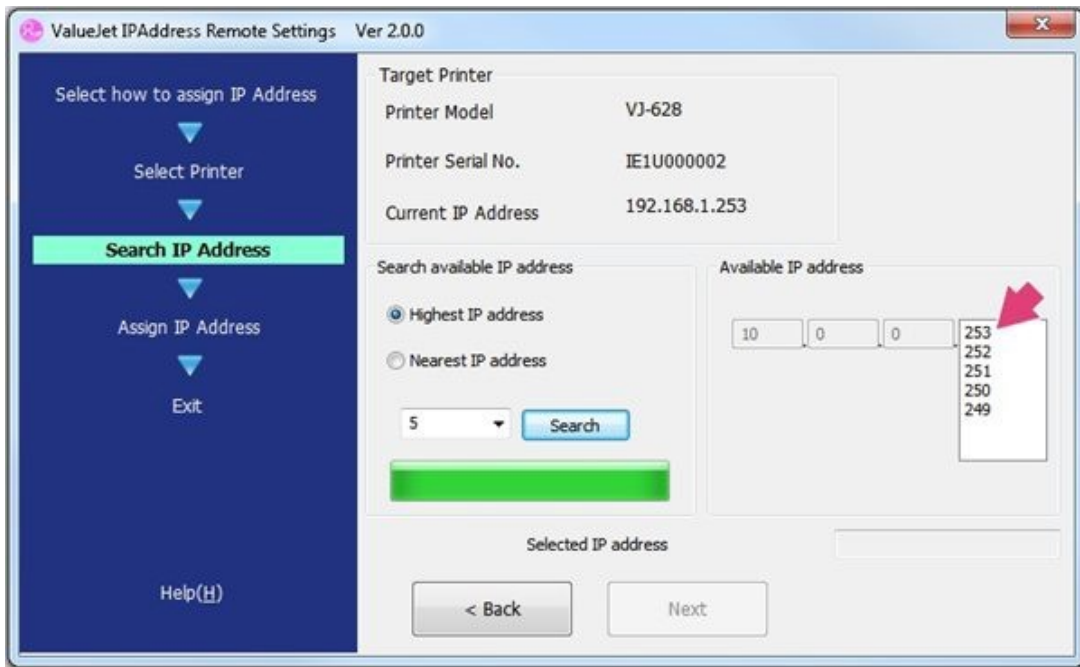

Figure 23
10. You will see the list of available IP addresses to choose from. Select the highest available number. See Figure 23.